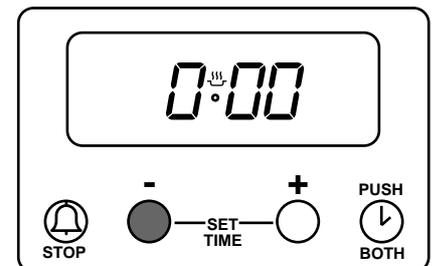

Fig. 6.10
Press and release button (1). Then press and hold button (1) and the display will count down in one minute intervals to $0^{\text{u}}:00$. See Fig. 6.10. Release button (1).